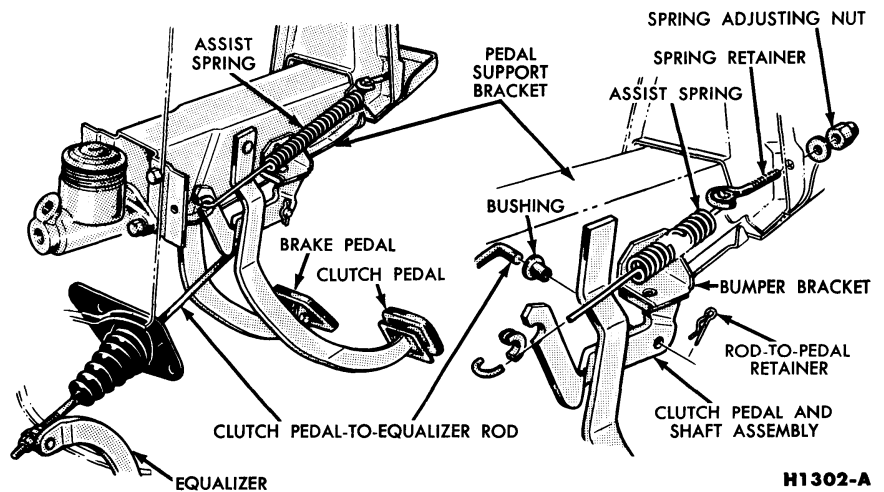

FIG. 15—Clutch and Brake Pedal Assembly
1. Back off the clutch pedal assist spring adjusting nut to the last few threads (Fig. 15).
3. Hook the clutch assist spring to its retainer, and connect the retainer to the pedal support bracket with the adjusting nut (Fig. 15).
4. Mount the clutch pedal bumper bracket to the pedal support bracket (Fig. 15). Adjust the bumper for clutch total travel.
Fig. 15 by loosening or tightening the adjusting nut on the retainer at the pedal support bracket.